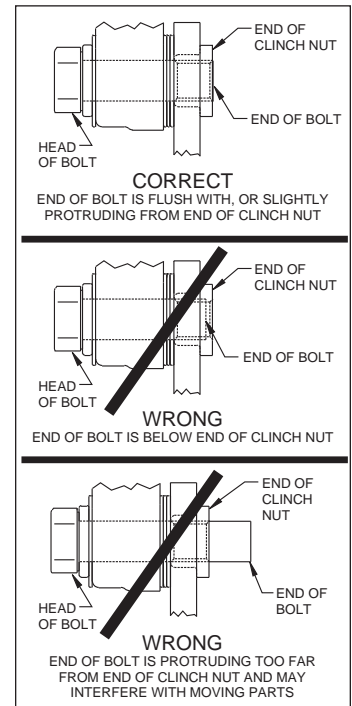

Figure 4. Clinch Nut Engagement Diagram
**Assembly Instructions** (numbers in parenthesis refer to the parts list, on the preceding page and Figure 1): **CAUTION:** *All mounting bolts must fully engage clinch nuts.* Be sure to check that all bolts are either flush or protruding through flanged side of clinch nut after shimming, Figure 4.
- Pack the small outer bearing cone (15) with high temperature disc brake bearing grease and install into hub (8). Slide the hub/rotor assembly onto the spindle. Secure using OEM spindle washer and OEM spindle nut, Photo 6. Adjust bearings per OEM specifications. Install saved OEM nut lock (if any) and a new cotter pin (not supplied).
- Screw dust cap (17) into hub (8), Photo 7. Friction created by the o-ring (18) on the dust cap keeps it from unscrewing. **NOTE:** The O.D. of the existing OEM spindle washer may be larger than the I.D. of the dust cap not allowing it to seat against the hub face. Therefore, use the spindle washer (16) supplied with the kit instead of the OEM washer.
- NOTE:** Please reference the caution statement at the beginning of the assembly instructions. Mount the caliper (19) onto the caliper mounting bracket (1) using bolts (21) and washers (20), as shown in Figure 1. Initially place two .035" thick shims (22) on each bolt between the caliper and the bracket, Photo 8. Temporarily tighten the mounting bolts and view the rotor (12) through the top opening of the caliper. The rotor should be centered in the caliper, Photo 9. If not, adjust by adding or subtracting shims between the bracket and the caliper. Always use the same amount of shims on each of the two mounting bolts. **NOTE:** The end of each bolt must be flush with or slightly protruding from the head of the clinch nut, as shown in Figure 4. If necessary place spare shims between washer (20) and caliper mounting ear to achieve the proper clinch nut engagement. Once the caliper alignment and clinch nut engagement are correct, remove the bolts one at a time, apply red *Loctite*® 271 to bolt threads, and torque to 40 ft-lb.
- Install the disc brake pads (23) into the caliper, with the friction material facing the rotor (12), and secure in place using cotter pin (24), Photo 10.